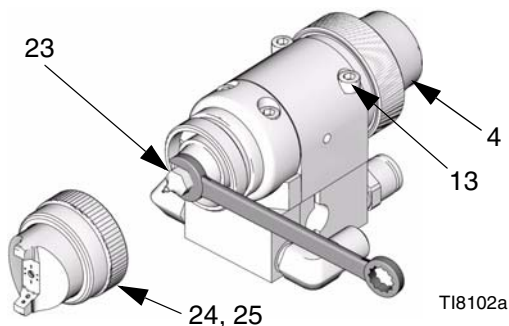

FIG. 18
2. Unscrew the four screws (13) and remove the gun from the manifold.
3. Remove the air cap retainer (25) and air cap (24). See FIG. 18.